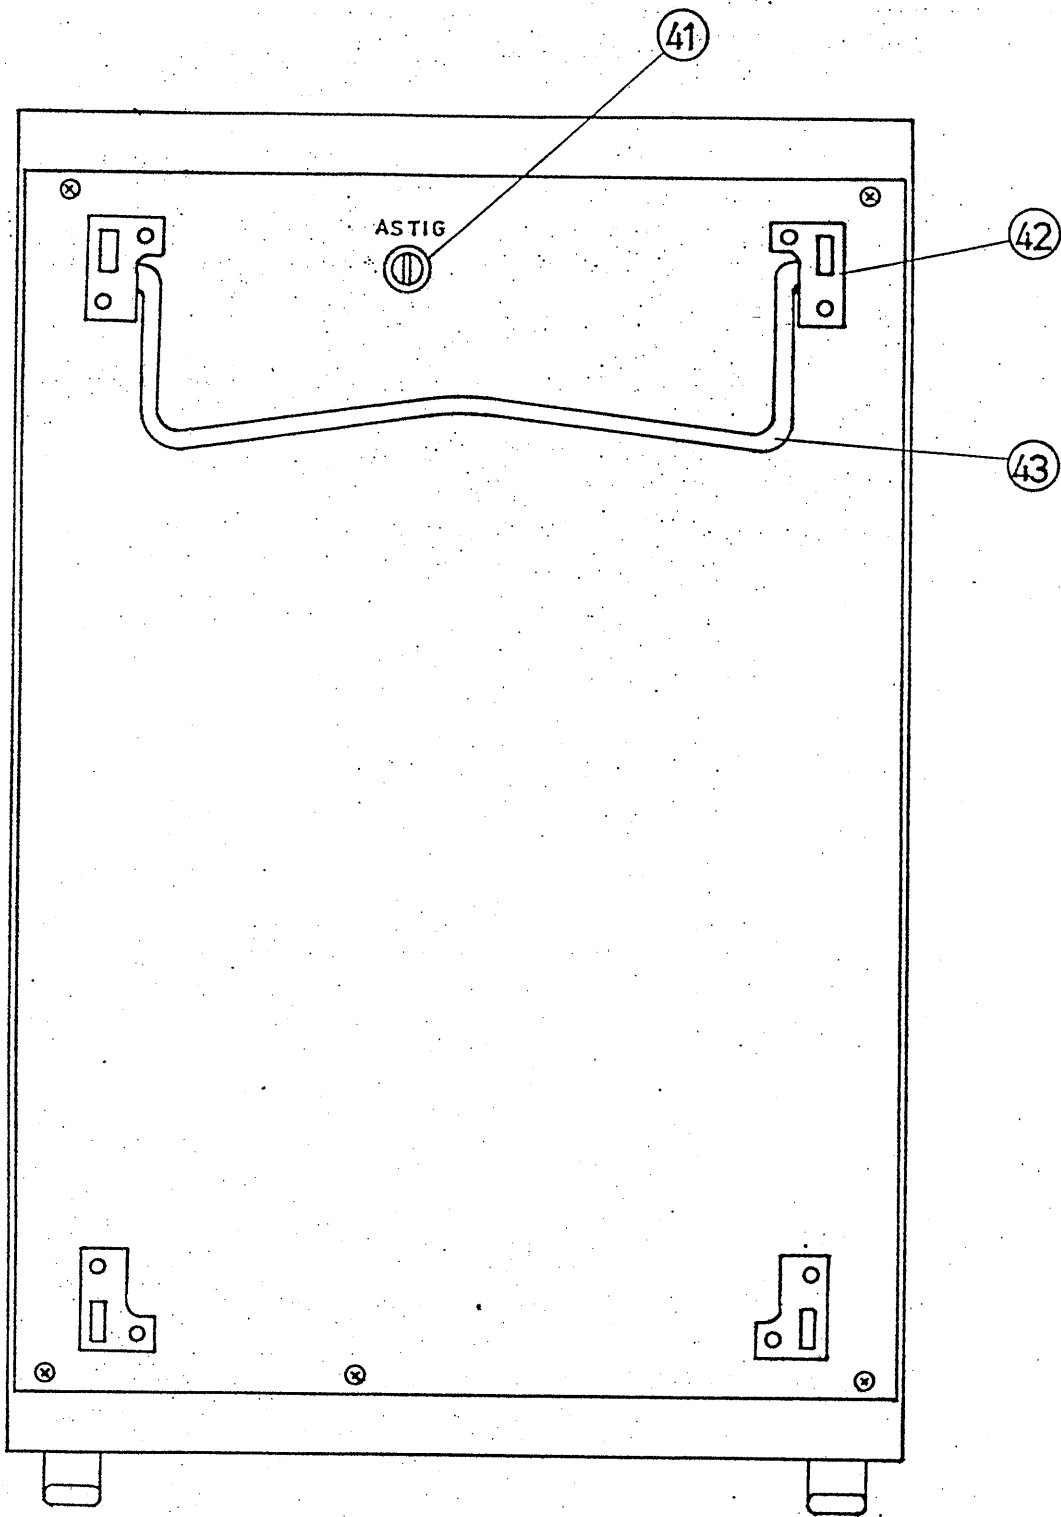

Fig. 3
③5	—	Power cord with plug.
③6	—	Cord winders combined with feet. They are used as feet, when the instrument is vertically stood.
③7	Z AXIS INPUT	Input terminals (Binding-posts) for external intensity modulation. This function is used for intensity modulation by external signal or a marker indication by intensity modulation. When no intensity modulation is made, ③7 and ③8 must be shorted with the short-bar.
③8	—	Terminal connected to the chassis (GND). Distance between ③8 and ③7 is 19mm for the convenience of using it with ③7.
③9	(Fuse)	Fuse holder. Fuse of 0.5A is used for line voltage of 100V ~ 120V and fuse of 0.3A is used for 220V ~ 240V. The fuse is taken up by turning the cap leftwards.
3.3 Explanation of bottom panel (Refer to Fig. 3)